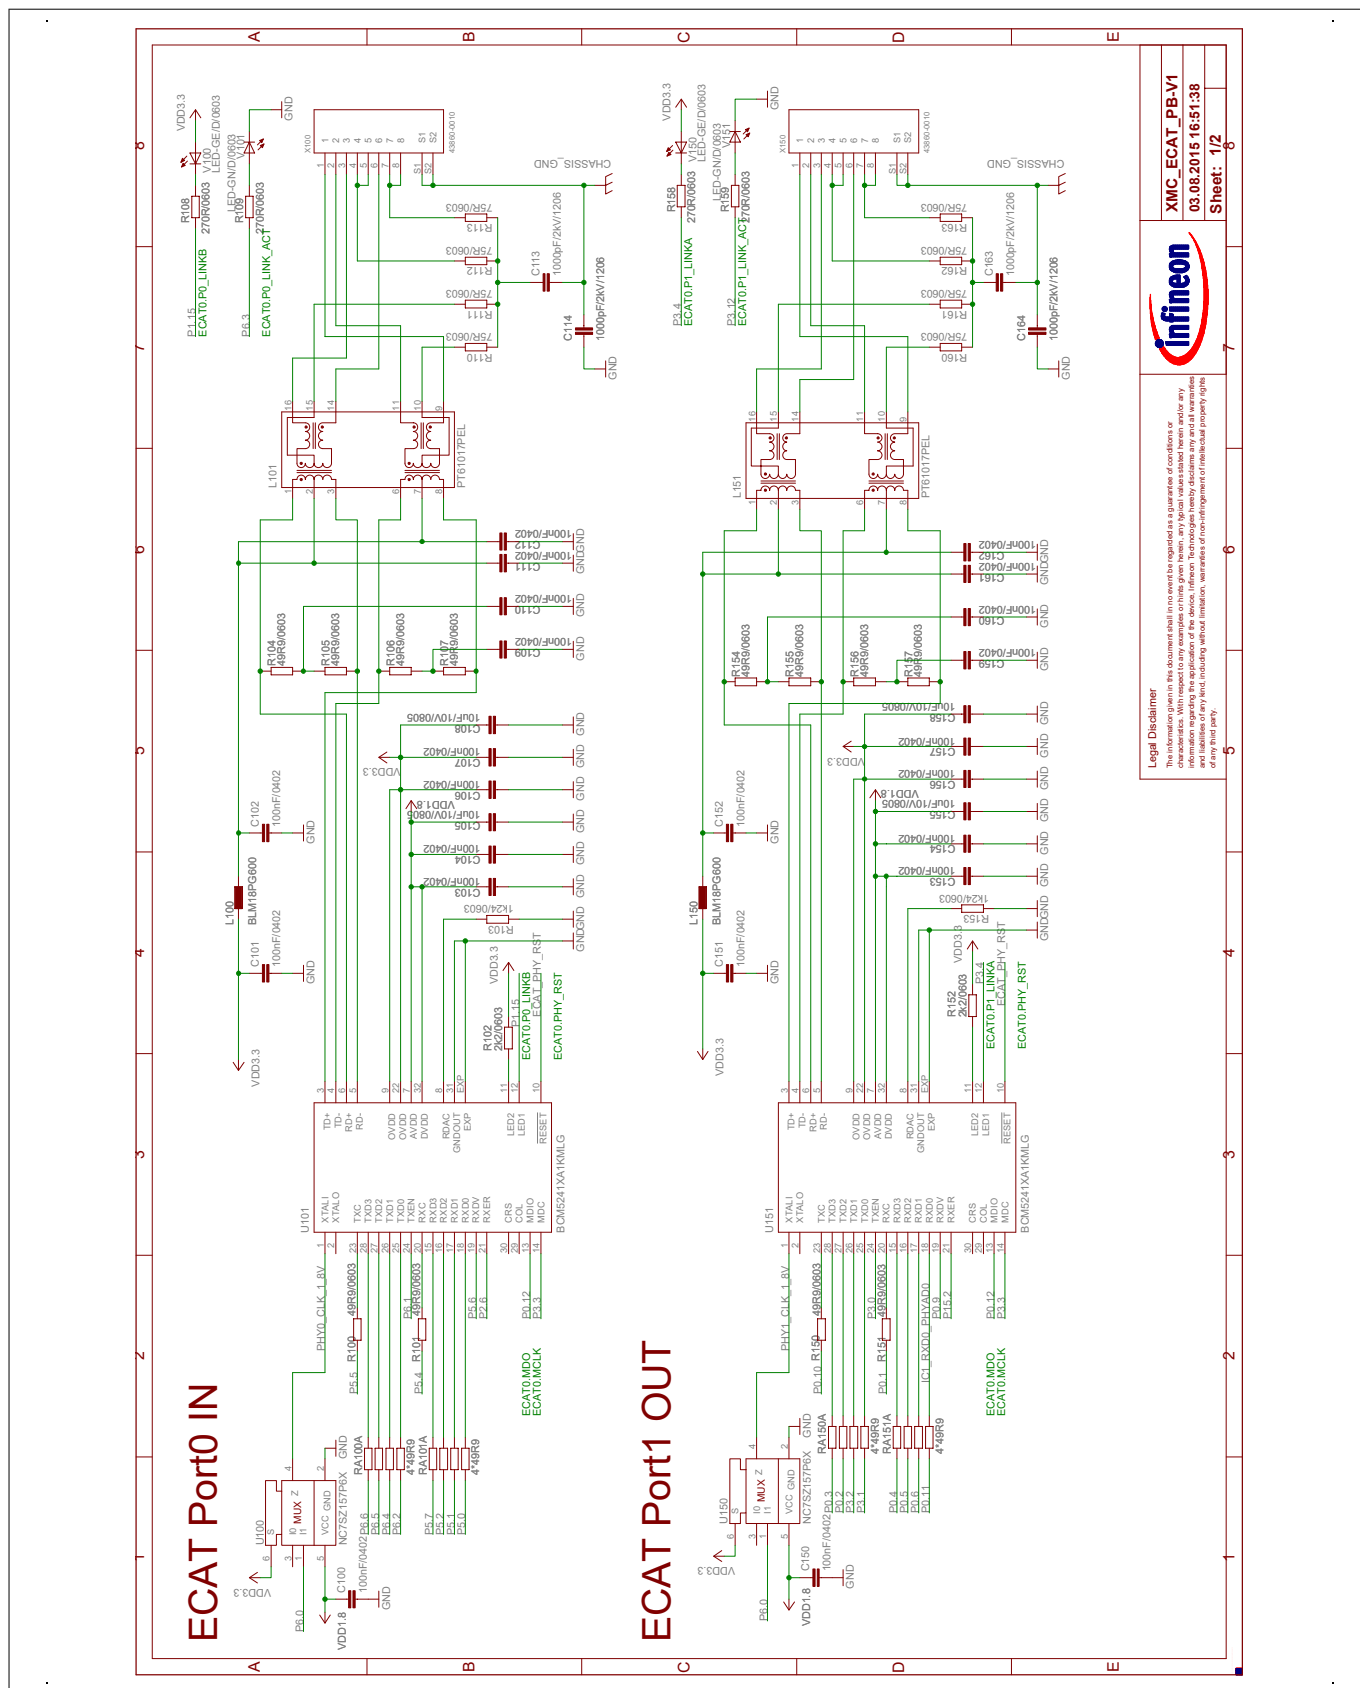

Figure 12
- Figure 12: XMC™ EtherCAT Phy Board Schematic: Input and Output Phy